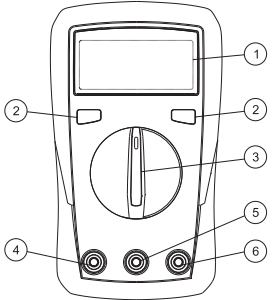

Figure 1
V. Multimeter Parts (Figure 1)